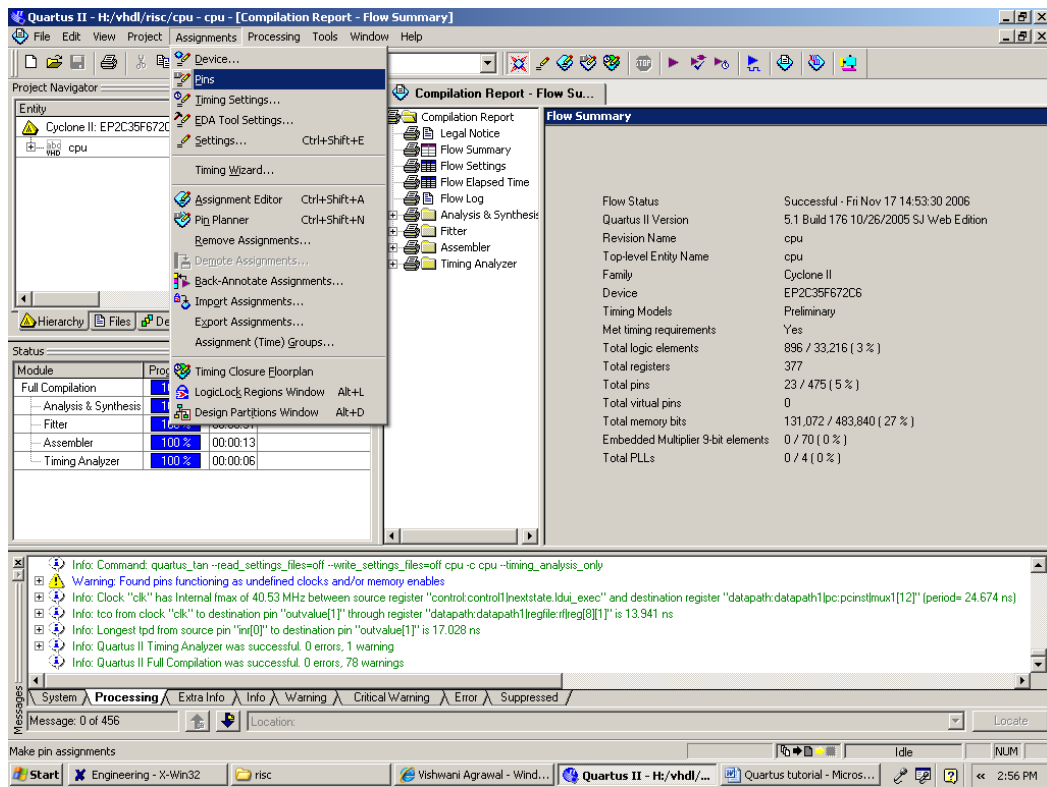
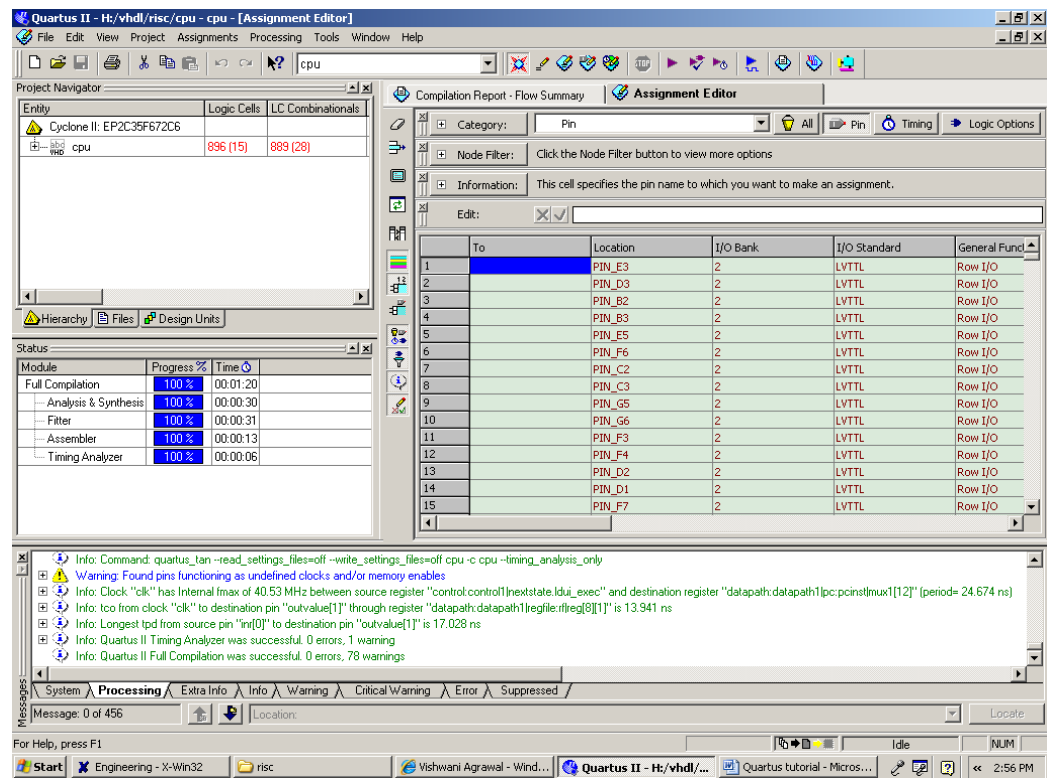
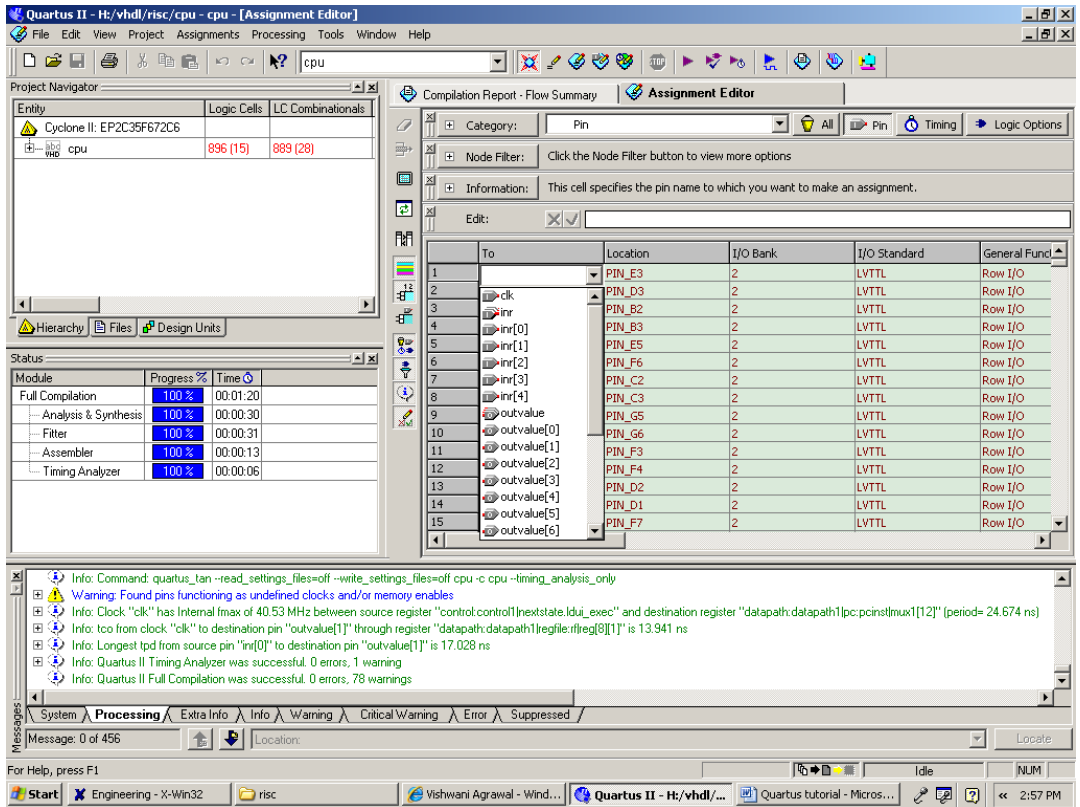
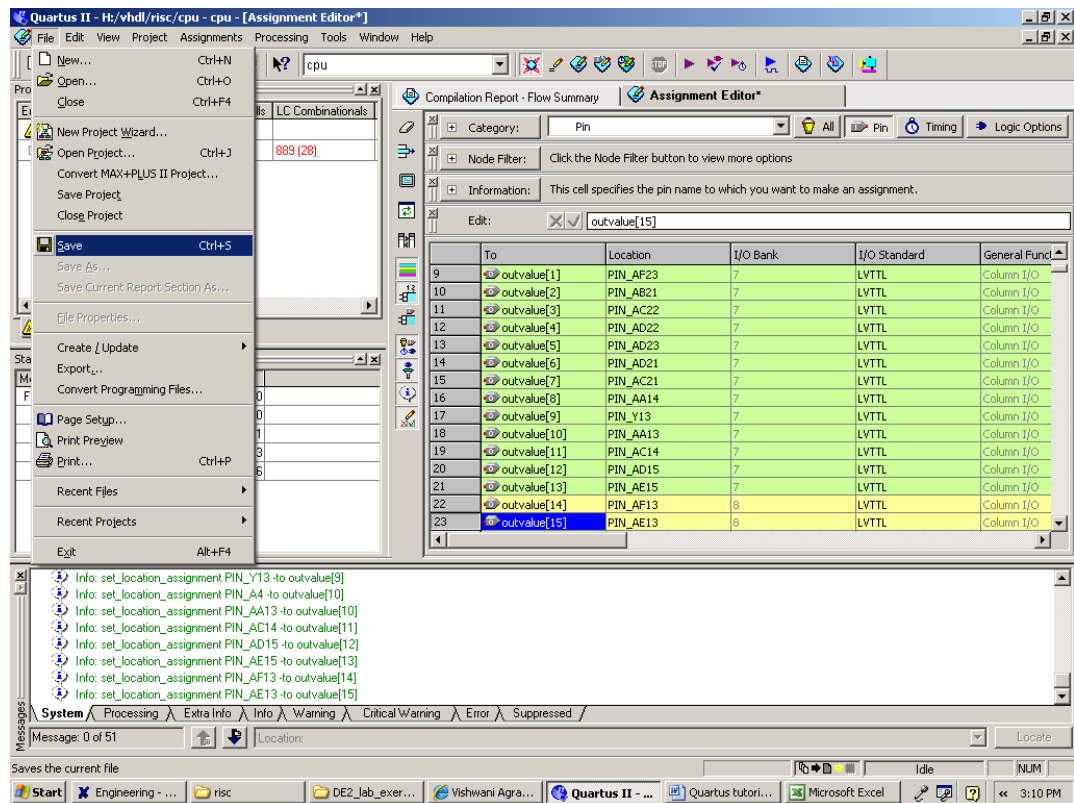

Fig. 16
Fig. 17
Fig. 18
Fig. 20
11) During the compilation, the Quartus II Compiler was free to choose any pins on the selected FPGA to serve as inputs and outputs. However, the DE2 board has hardwired connections between the FPGA pins and the other components on the board. Pin assignments are made by using the Assignment Editor. Select Assignments > Pins to reach the window in Figure 16. Under Category select Pin to reach window in Figure 17. Double-click on the first cell which is highlighted in blue in the column labeled To. The drop-down menu in Figure 18 will appear. Choose the ports and assign the pin numbers to them from the Pin Assignment MSExcel Sheet given to you. After all the pins are assigned to save the assignments made, choose File > Save as shown in Figure 20. You can also simply close the Assignment Editor window, in which case a pop-up box will ask if you want to save the changes to assignments; click Yes. Recompile the circuit, so that it will be compiled with the correct pin assignments.